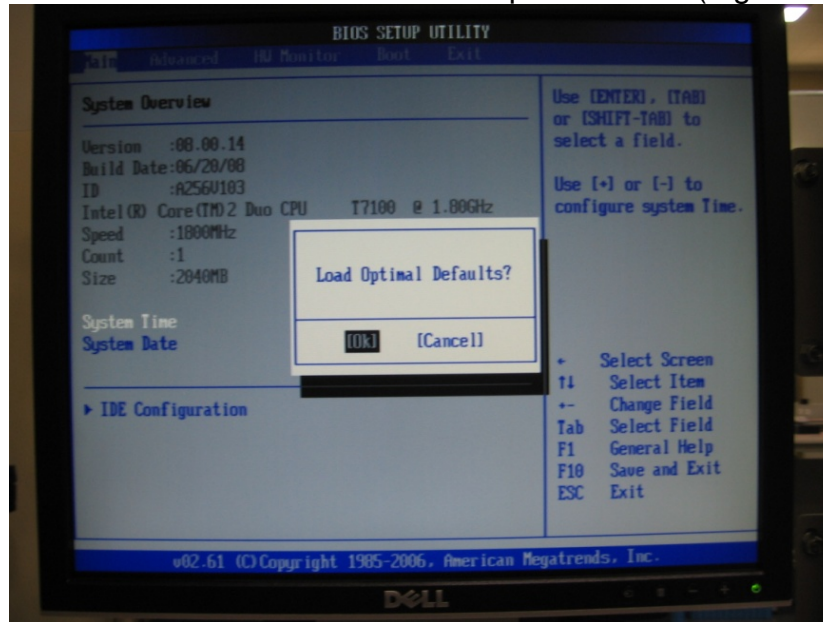

Figure 7-11 Default Selection Screen
1. Enter **BIOS** then Press **F9**. On the **Setup Popup Configuration Screen** menu select **YES** and press **Enter**. (Figure 7-11).